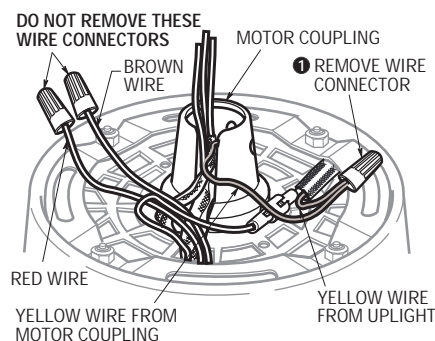
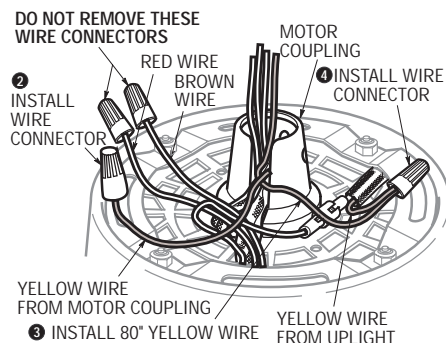

Figure 8
Figure 9
- 14. For Ceiling Fan Models CF4500 and CF4800 Only.** Locate the two yellow wires terminated by a wire connector. Remove the wire connector and separate the wires (Figure 8). One yellow wire comes from the motor coupling; cap the end of this wire using a wire connector (supplied) (Figure 9). Separate, untwist and unkink the 80" yellow wire lead (supplied with the fan) and cut off the connector from the end of the wire. Strip 1/2-inch of insulation from the end of this wire. Then join the 80" yellow wire to the yellow wire from the uplight using a wire connector (supplied). (Figure 9).